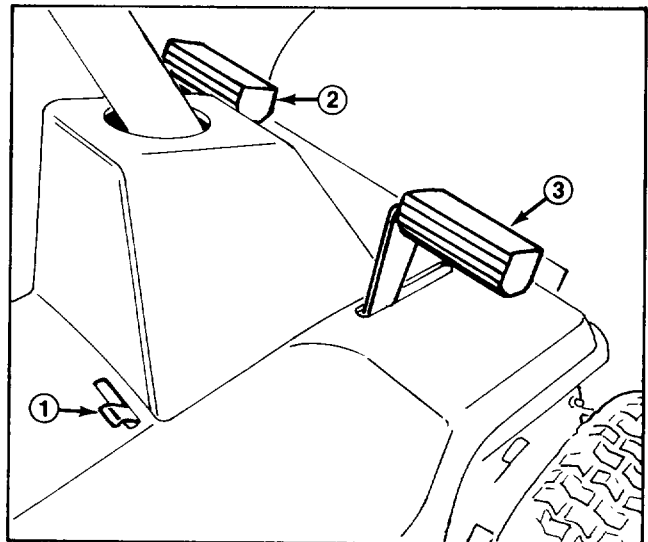

Figure 6
Clutch Pedal (Fig. 6) — Foot-operated clutch pedal is used in conjunction with gear shift. Depress clutch pedal fully when shifting gears, which moves idler pulley away from traction drive belt and disengages power to wheels. Depress clutch pedal whenever brake is used.
Brake Pedal (Fig. 6) — Foot-operated brake pedal must be depressed to slow down or stop the rider. When pedal is depressed, a caliper engages the brake disc at side of transmission. Remember to depress clutch pedal when using brake.
Parking Brake (Fig. 6) — Parking brake must be used in conjunction with brake pedal. When pedal is depressed and end of parking brake lever holds pedal in depressed position, a caliper engages the brake disc at side of transmission.
Ignition Switch (Fig. 6) — Switch on electric start model has three positions ON, OFF and START. Switch on recoil model has two positions ON and OFF.
1. Engage the parking brake (Fig. 6): refer to Using Parking Brake, page 11.
1. Engage the parking brake (Fig. 6); refer to Using Parking Brake, page 11.
2. Move parking brake control to the left and release brake pedal until it contacts end of parking brake lever (Fig. 6).
3. To release the parking brake, depress brake pedal (Fig. 6), which will allow parking brake lever to return to its disengaged position. Then release brake pedal.